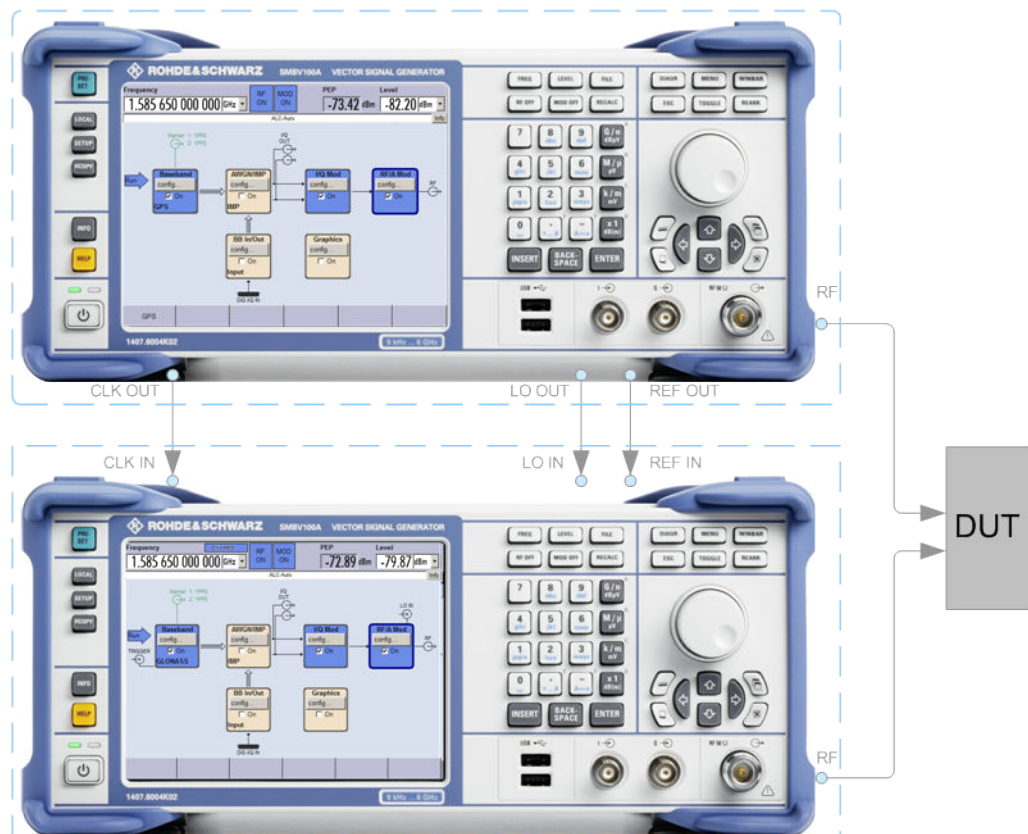

Fig. 2-8: Example: Connecting two R&S SMBV to generate GNSS signal using common RF frequency
The figure 2-8 provides an example of test setup. The two instruments are connected to work in master-slave mode and the local oscillators (LO) are coupled. The first instrument provides the second one with its system clock, trigger, reference and LO signals.